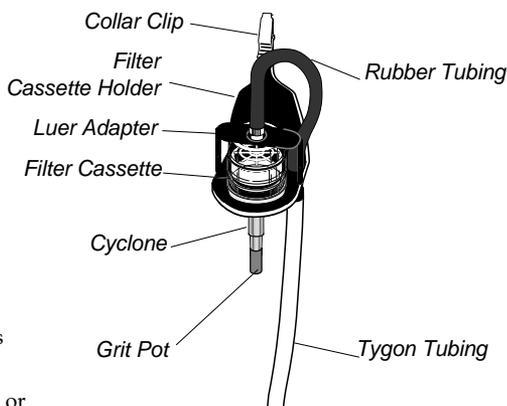

Figure 3
4. Insert the cyclone/cassette assembly through the large opening of the filter cassette holder (see Figure 3). Ensure the assembly is seated firmly in the holder by inserting the cyclone's side pin (the small round nodule on the rim of the cyclone) into the notch in the filter cassette holder.